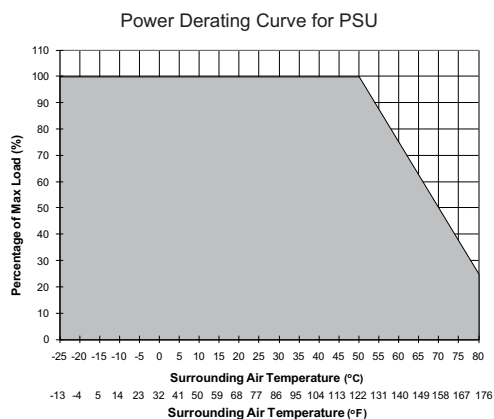

Figure 7
5.4. Thermal behavior (Fig. 7)
Ambient Operating temperature	-25°C to +80°C [-13°F to 176°F] (Refer to Fig. 7)